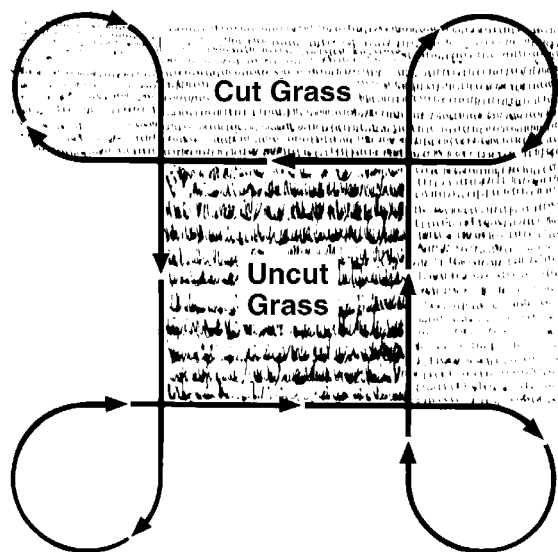

Figure 69
- Follow the mowing pattern shown in Figure 69.